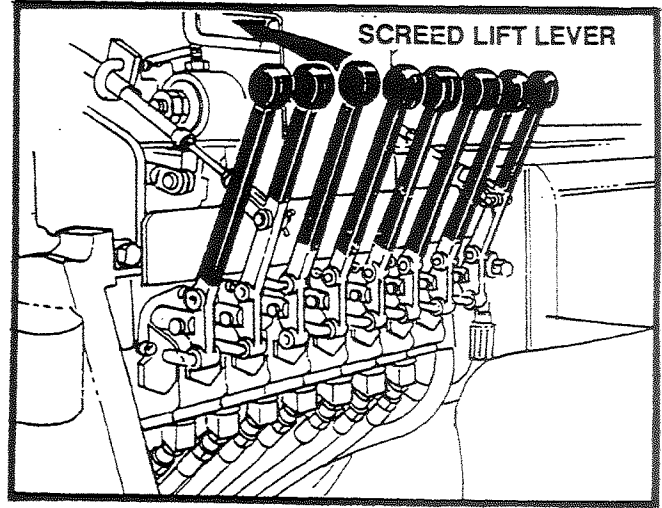

FIGURE 21
5. Push screed valve lever all the way forward into float position. This will take the hydraulic pressure from the cylinder, allowing screed to float. See figure 21.